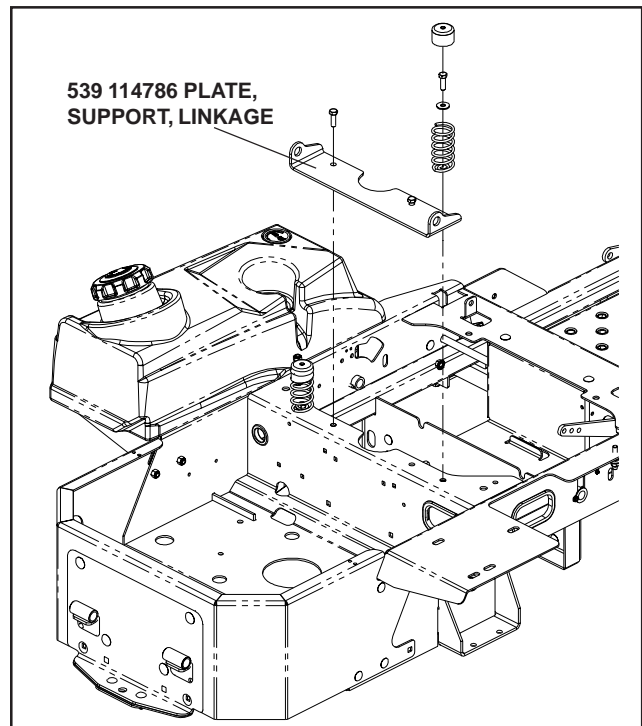

FIGURE 2
7. Reposition springs and secure with (990209) 5/16 x 1 hex bolts and hex nut previously removed from seat springs. See Figure 2.
8. Attach two (539 114783) Linkage, Support to the clamshell assembly as shown in Figure 2.